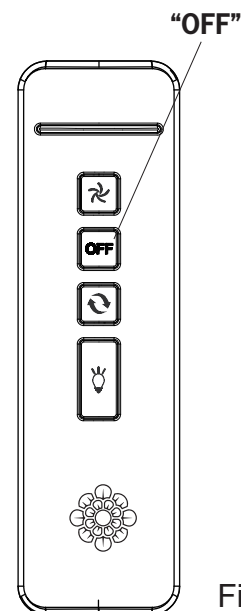

Fig. 4
2. **Learn function setting.** Restore power source to your fan, press and hold the "OFF" button for at least 4 seconds. You must press the 'OFF' button within 60 seconds of restoring power to the fan. (Fig. 4)